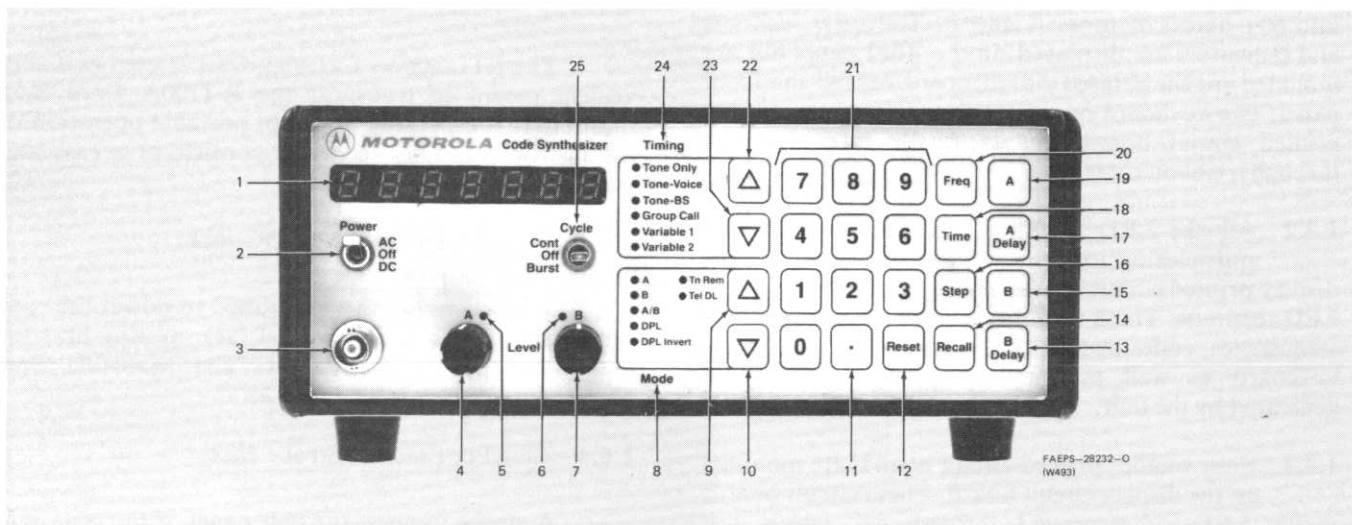

Figure 2-1. Location Of Front Panel Display Indicators, Controls and Connectors
2.2.1 Front Panel (See Figure 2-1)